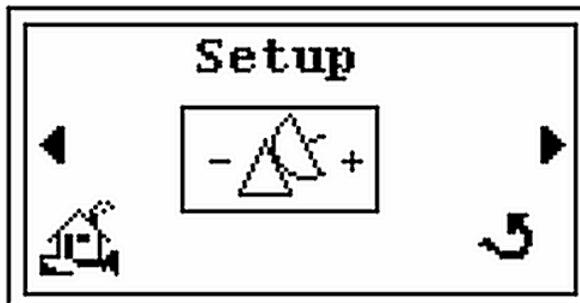

Figure 2-46 Setup Screen
3. Press the  and the *Setup* screen appears (Figure 2-46).